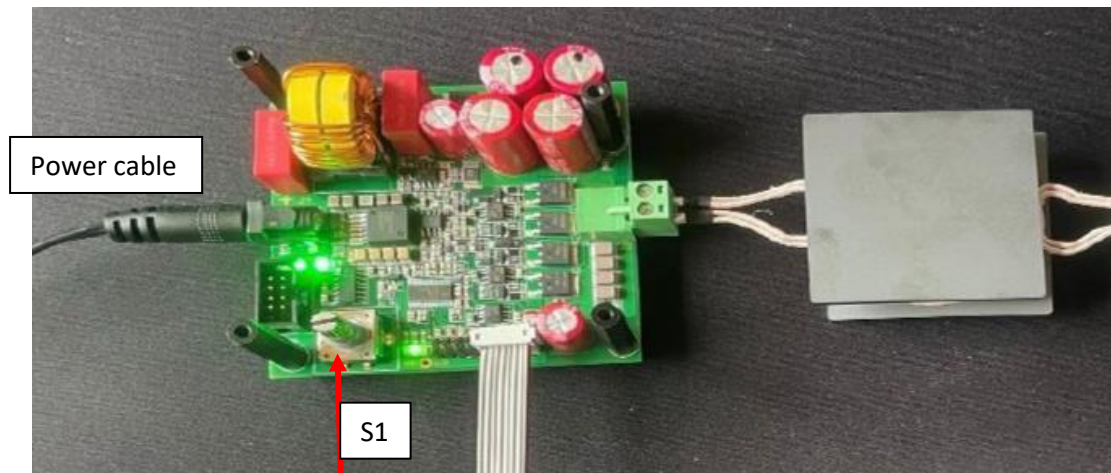

Figure 7: Connect XMC Debugger with flat ribbon cable at the Tx side
- Connect the ribbon cable with XMC debugger to the Tx board as shown below in Figure 7.